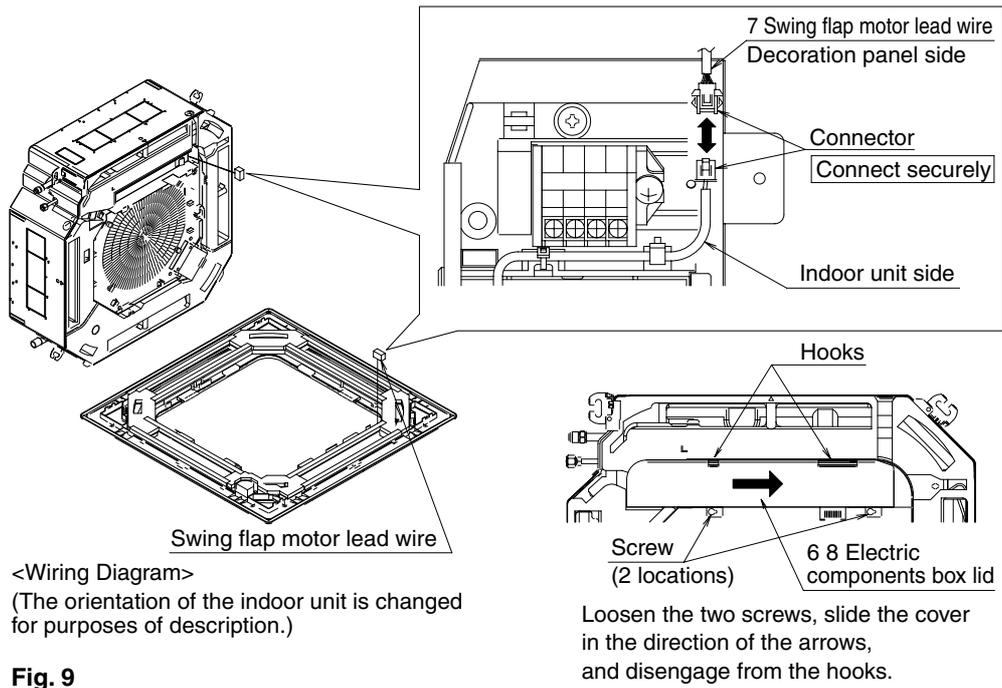

Fig. 9
(3) Wiring of the decoration panel (Refer to Fig. 9)